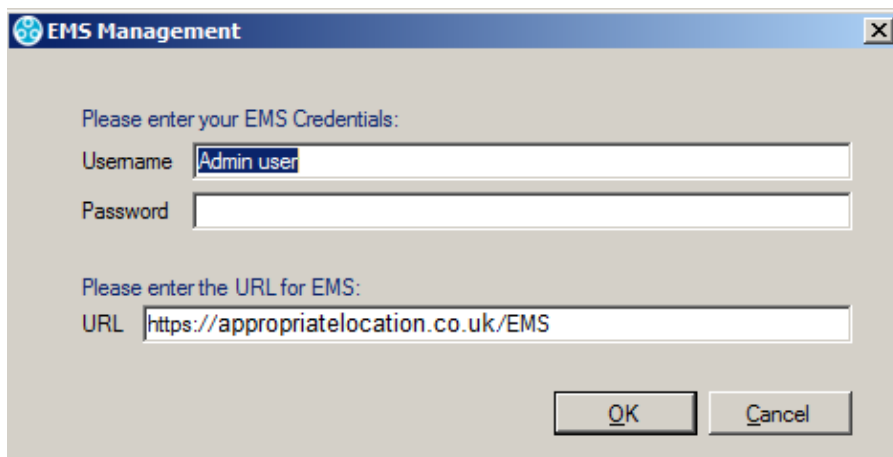

Figure 2
- The **EMS Connection** window is displayed. See Figure 2 below:
Note: 'EMS' at the end of the URL shown in Figure 2 above must be entered in uppercase.
See Figure 2 above.